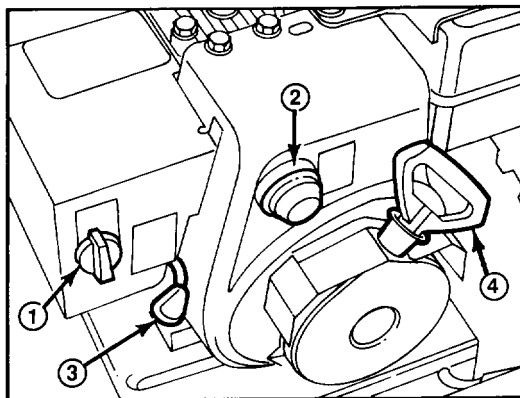

Figure 14
Throttle (Fig. 14) — Moving the throttle upward increases engine speed.
Choke (Fig. 14) — Choke for engine is located on heater box. Rotate choke to FULL choke position to start a cold engine. As engine warms up, move choke gradually to OFF.
Primer (Fig. 14) — Press primer to pump small amount of gasoline into engine for improved cold weather starting.
Recoil Starter (Fig. 14) — Recoil starter is on back side of engine. Pull recoil starter to start engine.
2. Move throttle to FAST (Fig. 14).
4. Rotate choke to full choke position (Fig. 14).
6. Depress primer (Fig. 14) five times.
7. Grasp recoil starter handle (Fig. 14) and pull it out slowly until positive engagement results; then pull vigorously to start the engine. Keep firm grip on starter handle and return the rope slowly.
8. After engine starts, immediately rotate choke (Fig. 14) to 3/4 position. As engine warms up, rotate choke to 1/2 position; then to OFF position. If engine falters, return choke to 1/2 position. When engine warms sufficiently, rotate choke to OFF position.
2. Move throttle to slow and rotate ignition key to OFF (Fig. 14).